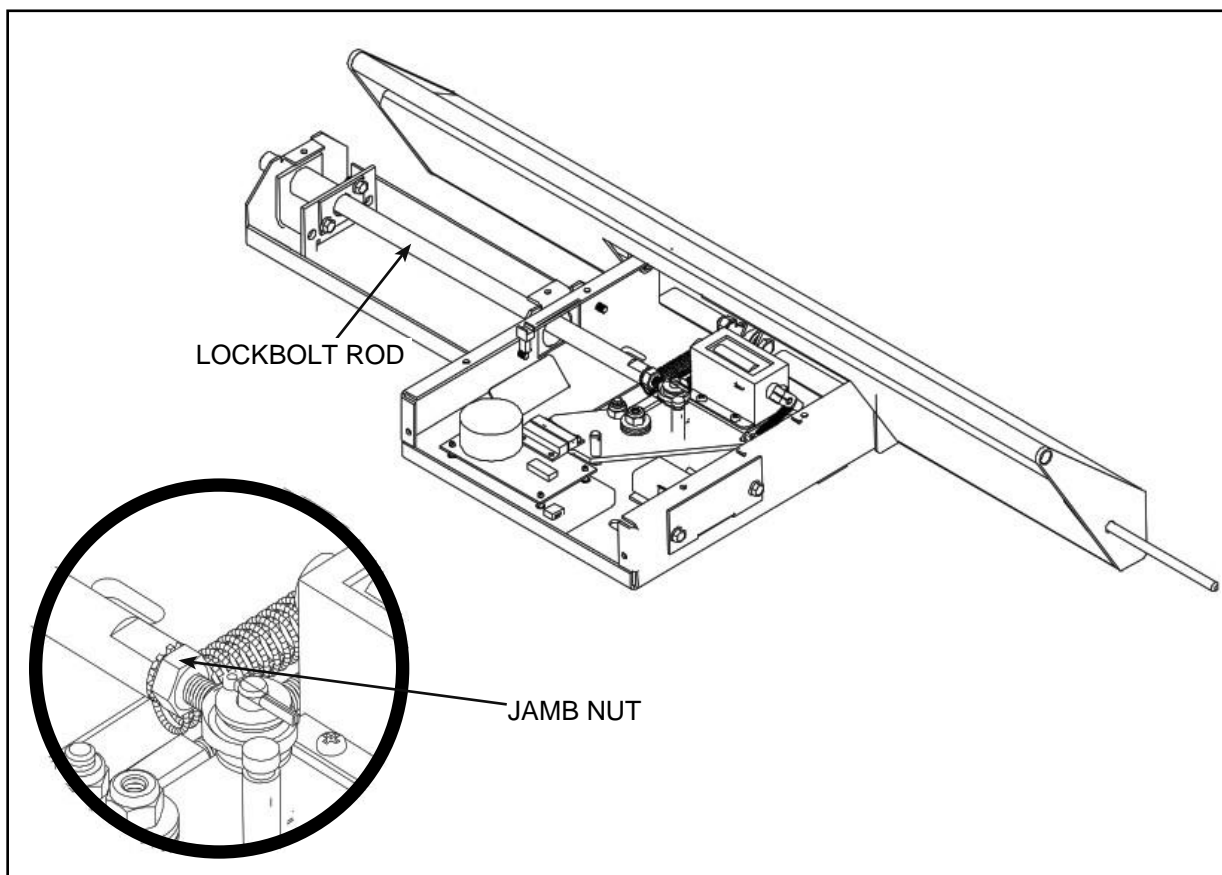

FIGURE 5
7. Keeping the door closed, check the distance between the end of the lock bolt and the door jamb stop. To ensure the maximum extension into the latch (installed later), the end of the lock bolt should just clear the jamb stop - the clearance should be approximately 1/16" but no more than 1/8". If necessary, adjust the extension of the lock bolt rod by loosening the jamb nut at the opposite end of the lock bolt rod - inside the Sur-Lock™ housing - and rotate the lock bolt rod as needed to obtain the proper clearance. Tighten the jamb nut securely (See Figure 5)!